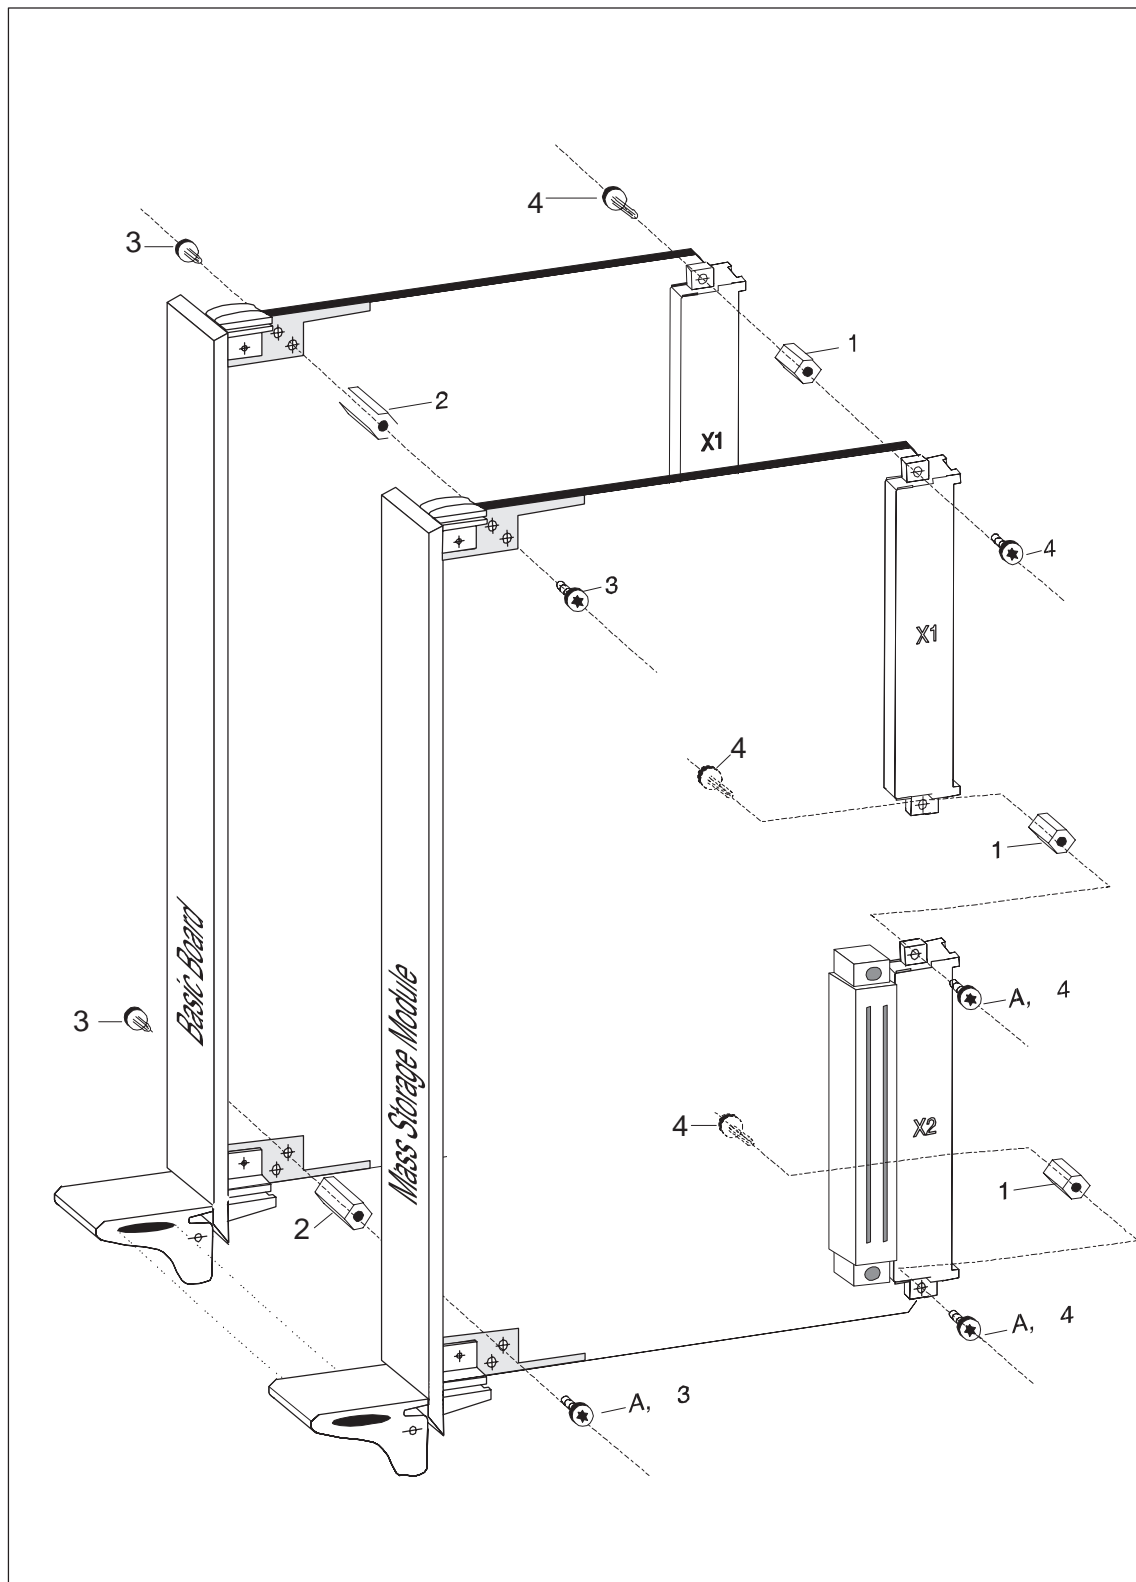
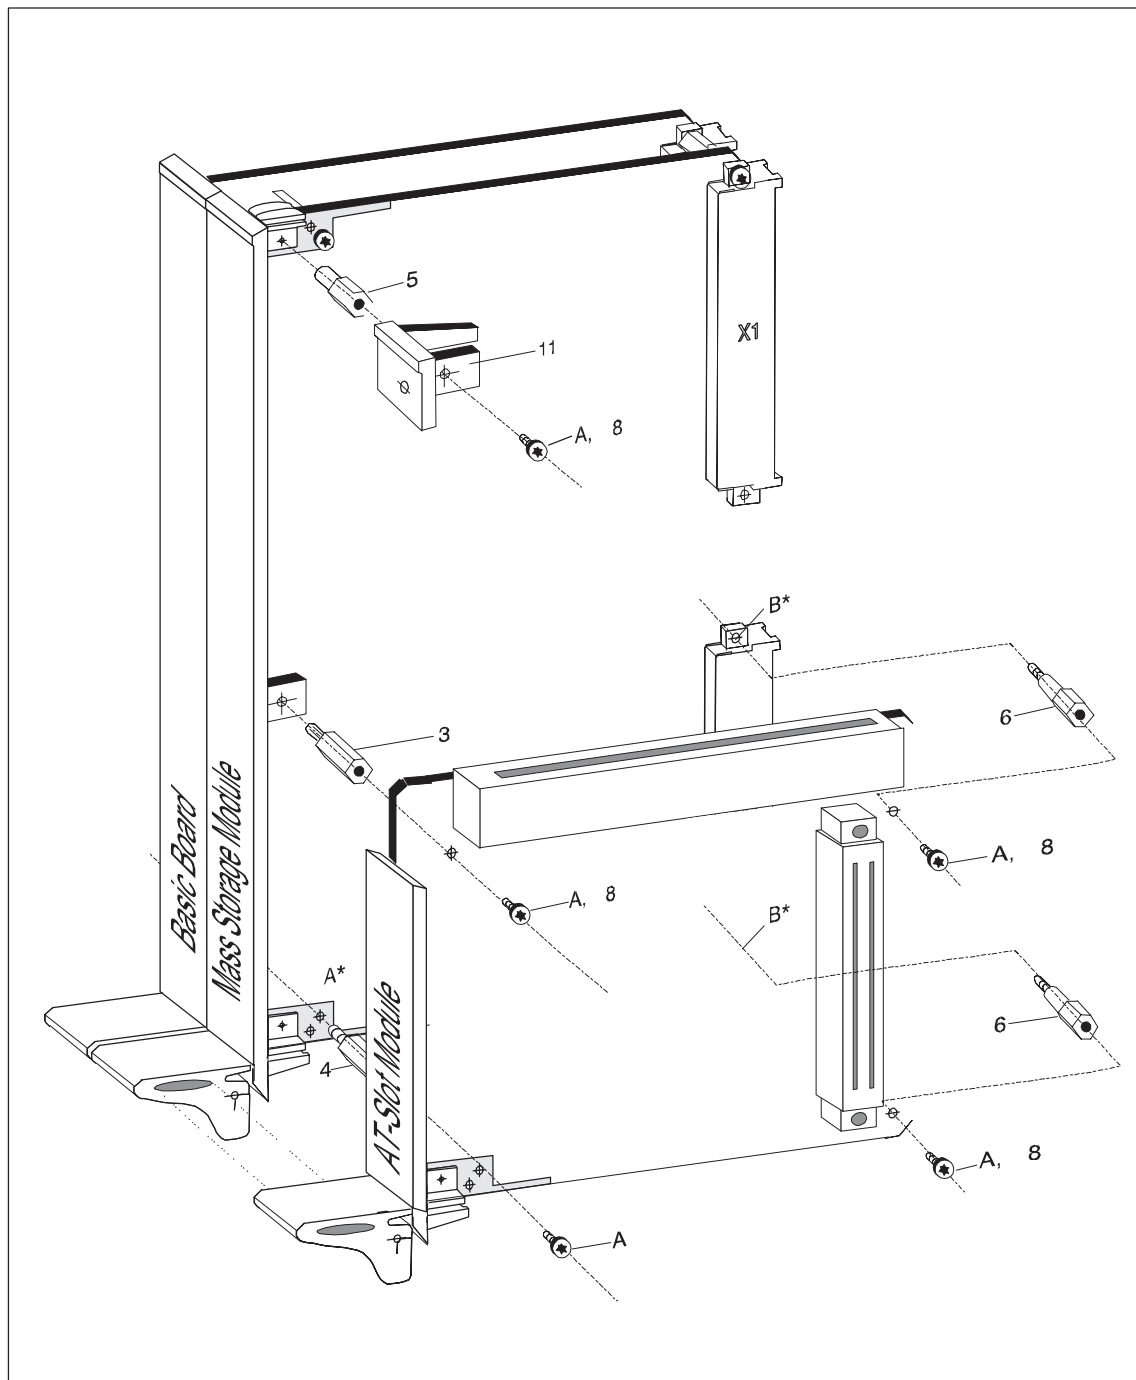
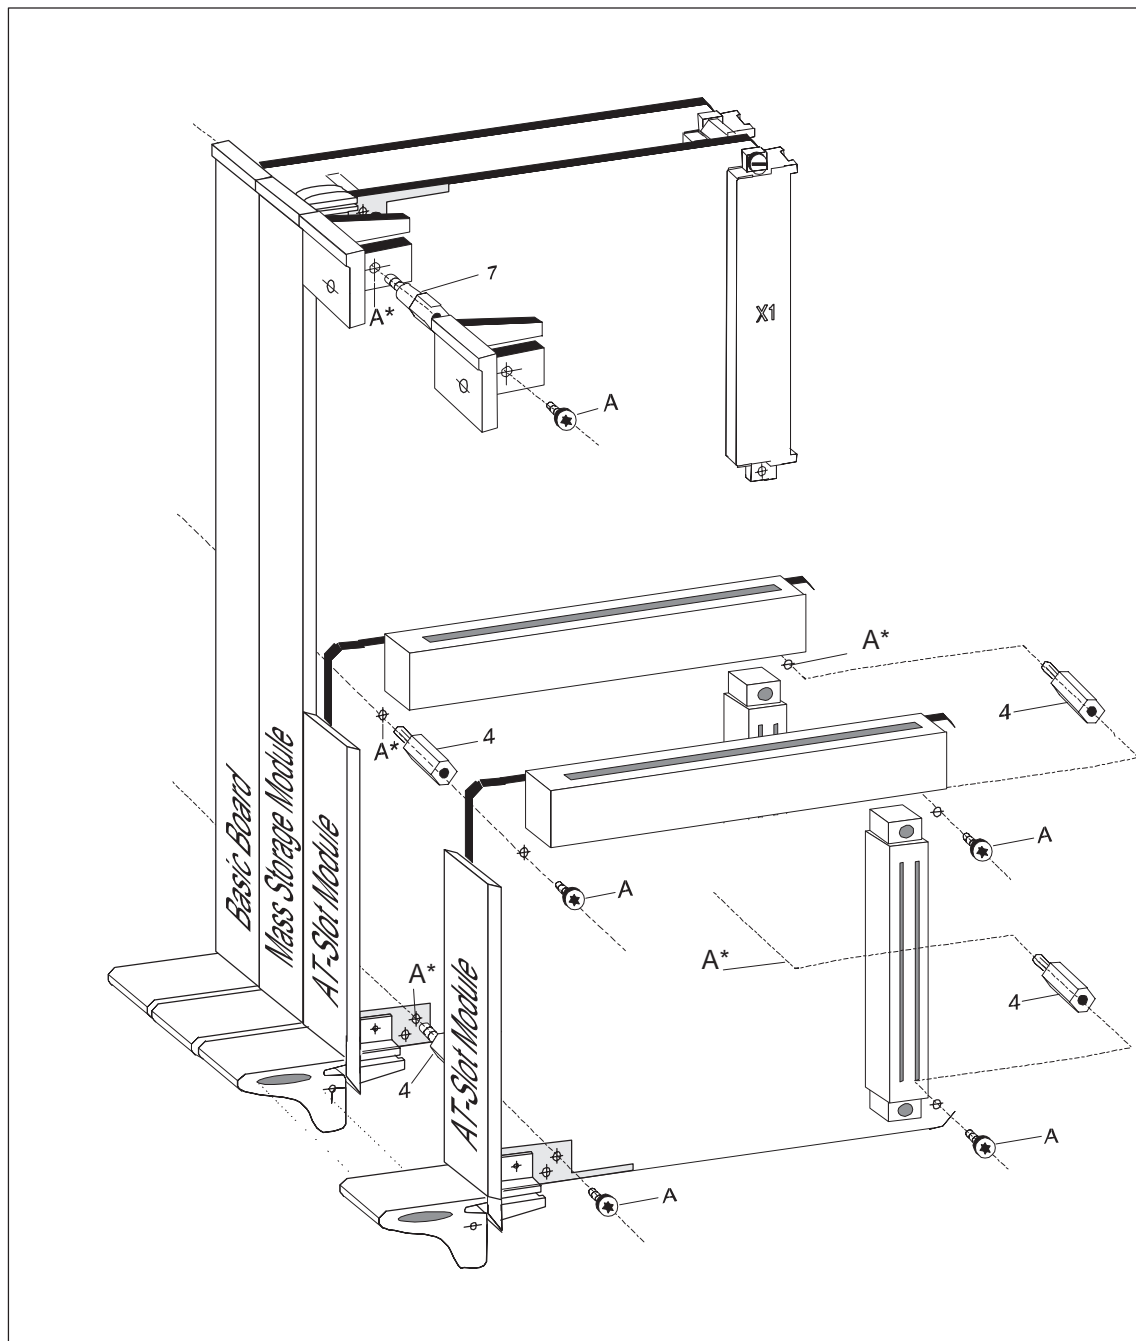

Figure 2-6 Assembly of the Mass Storage Module onto the Basic Board
Figure 2-10 Assembly of an AT Slot Module onto the Mass Storage Module
Figure 2-11 Assembly of Two AT Slot Modules onto the Mass Storage Module
Proceed as follows according to Figure 2-6 in order to assemble the modules:
1. Screw the spacers “1” and “2” onto the basic board according to Figure 2-6. Insert the screws “3” and “4” from the solder side (the side of the module provided with a cover).
3. Screw the two modules together as in Figure 2-6. If you wish to fit the AT slot module immediately, **do not tighten** the screws identified “A.”
Proceed as follows according to Figure 2-10 in order to assemble the modules:
Loosen the two screws identified “A*” and “B*”. Screw “A*” is required for the further assembly (identified by “A” in Figure 2-10), screws “B*” are replaced by the screws identified by “A, 8” in Figure 2-10.
2. Screw in the spacer bolts “3,” “4” and “6” according to Figure 2-10.
4. If you do not wish to fit a further AT slot module, screw the two modules together using the screw identified “A” and the three screws identified “A, 8” in Figure 2-10 and fit the part “Front panel, top” (“11”) onto the spacer bolt “5” using a screw “A, 8.”
If the spacer bolts “6” in Figure 2-10 do not immediately grip when screwing in, slightly loosen the screws identified “4” in Figure 2-6 (1/4 revolution), screw in the bolts and tighten the screws again.
Proceed as follows according to Figure 2-11 in order to assemble the second AT slot module:
Remove the five screws identified “A*”. The screws are required for the further assembly (identified “A” in Figure 2-11).
2. Screw in the spacer bolts as in Figure 2-11.
4. Screw in the two AT slot modules together as in Figure 2-11 using the four screws identified “A.”
5. Fit the first part, “Front panel, top,” onto the spacer bolts identified by “5” in Figure 2-10; tighten the part using spacer bolt “7” (Figure 2-11). Using the fifth screw “4”, subsequently fit the second part “Front panel, top” onto the spacer bolt “7” screwed in for securing the first part.